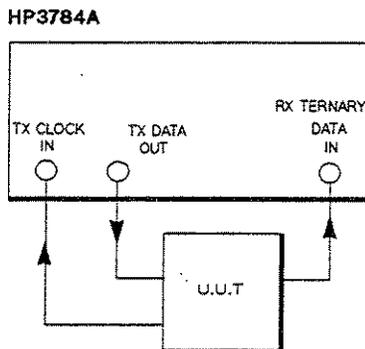

Figure 3-13 Equipment Setup.
A clock from the system under test is used as the external source for timing of the HP 3784A Transmitter output data. The test setup is shown in Figure 3-13.
1. Connect the equipment as shown in Figure 3-13.